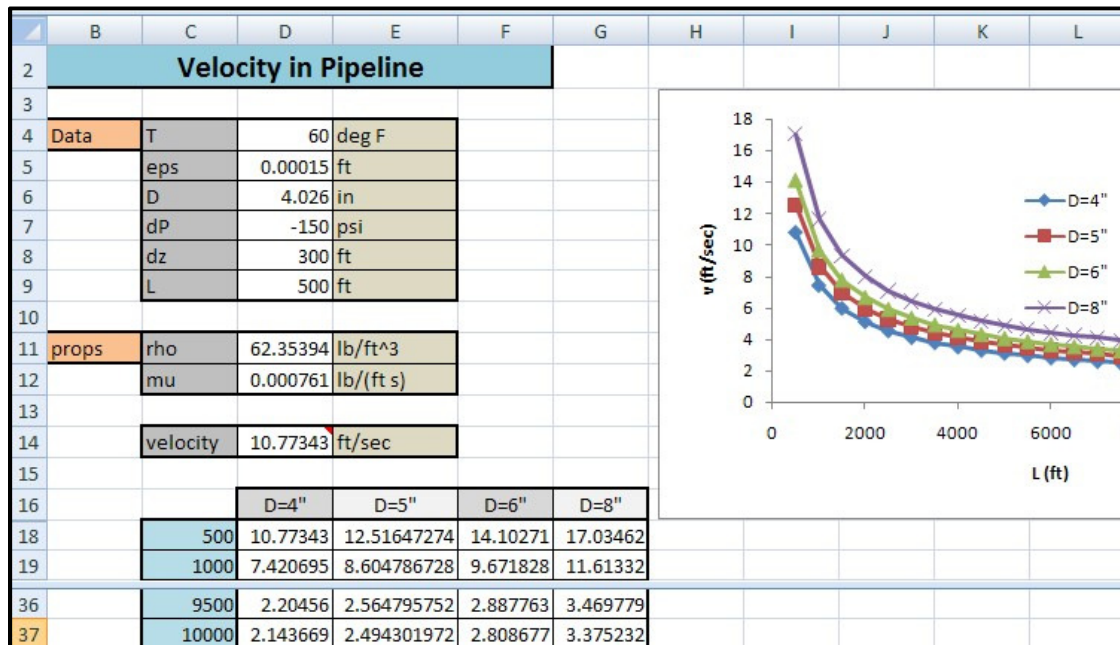

Figure 1. Data Table using Functions.
1. Redo Drill 1, number 2, replacing the velocity data table calculation with the user defined function given in the handout. (see Figure 1).